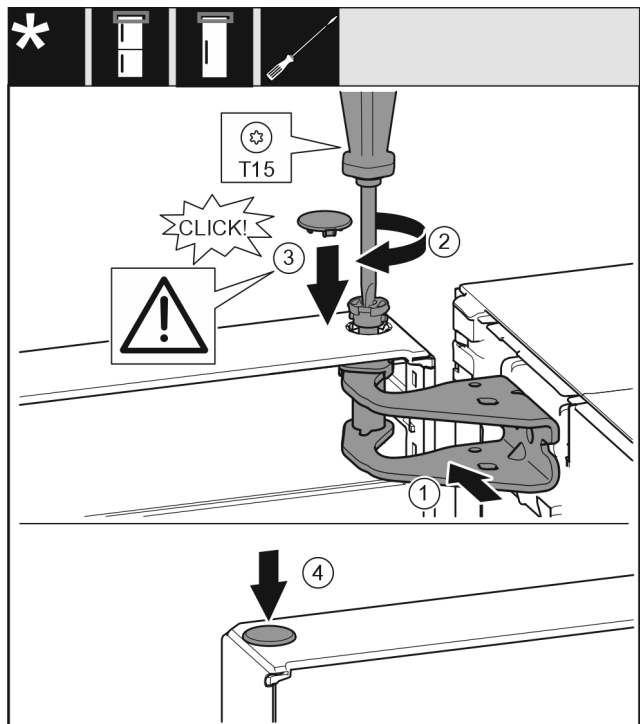

Fig. 26
- Align the top door with the opening in the swap bearing block Fig. 26 (1).
- Insert the bolt Fig. 26 (2) and use screwdriver to tighten it.
- Insert the cover Fig. 26 (3).
- Check that the cover Fig. 26 (3) is resting on the door.
- Insert the cover Fig. 26 (4).